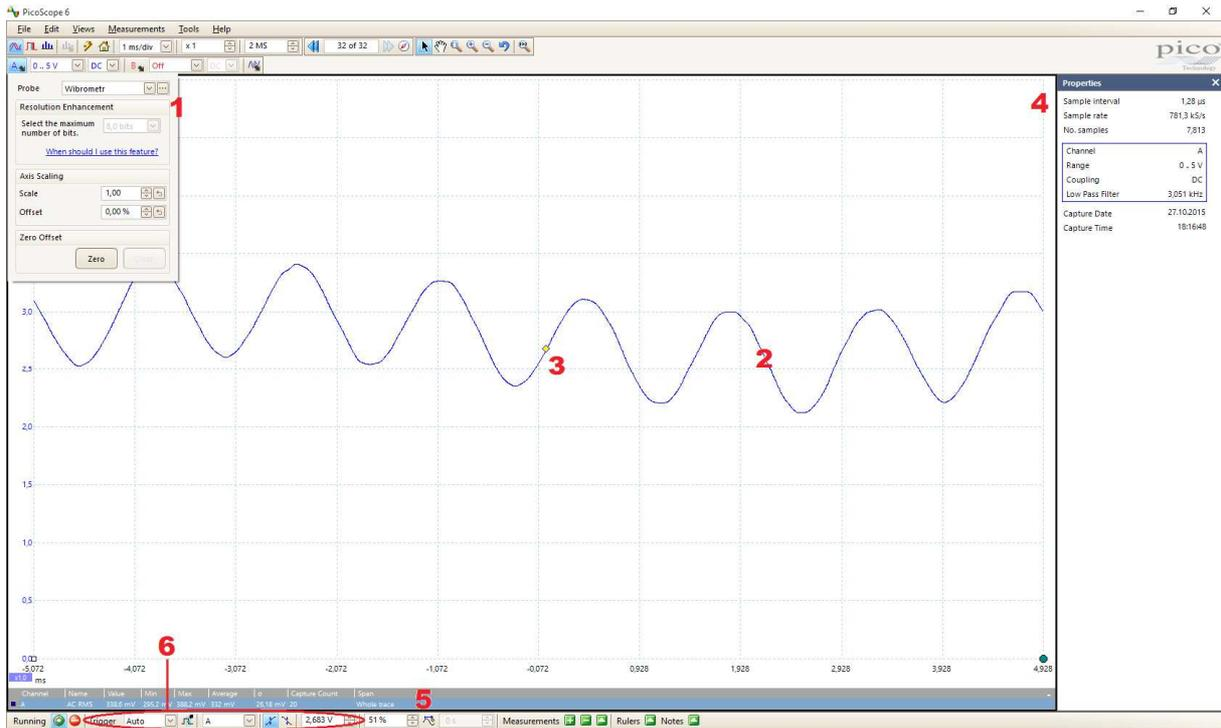
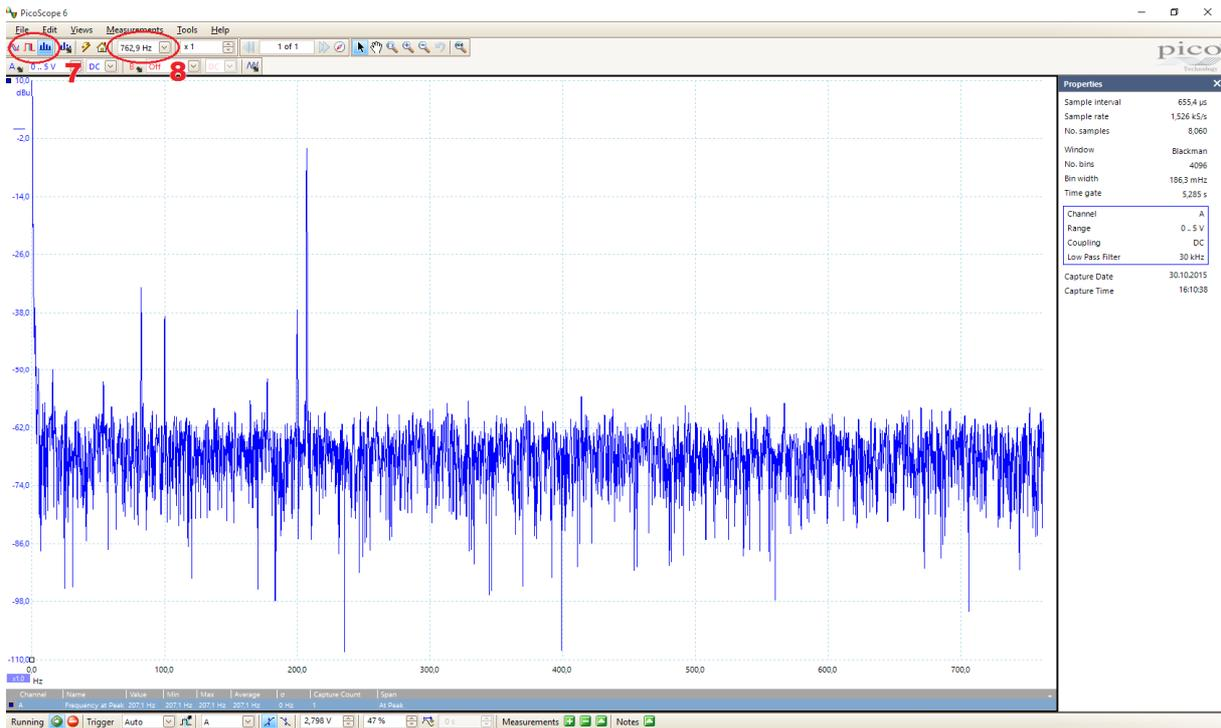

Figure 3. Main screen from oscilloscope software (PICO OSCILLOSCOPE).
Figure 4. Screen of measurement of software in FFT mode
Producer provides controlling software for PC with oscilloscope. Figure 3 and figure 4 shows two useful modes of operation – real time view of signal (3) and magnitude of Fourier transform of the signal.